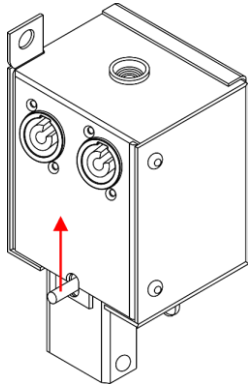

Fig. 05
- 01) Push the **release pin (06)** on the backside of the FX Drop upwards to release the **drop hook (03)** as shown on Fig. 05.